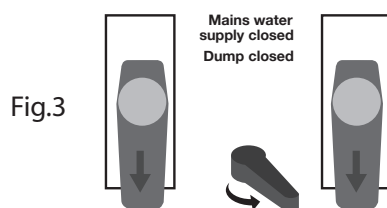

Fig.3
- 6) Set the valves as per Figure 3 and add the chemical into the tank.
- 5) Set the valves as per Figure 3, add the chemical into the tank.